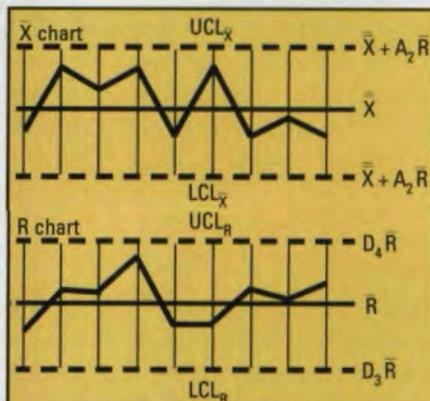

Fig. 4 — Data in the form of an X-R chart.
5. If correlations are low, use either average and range (X-R) charts (Fig. 4) or